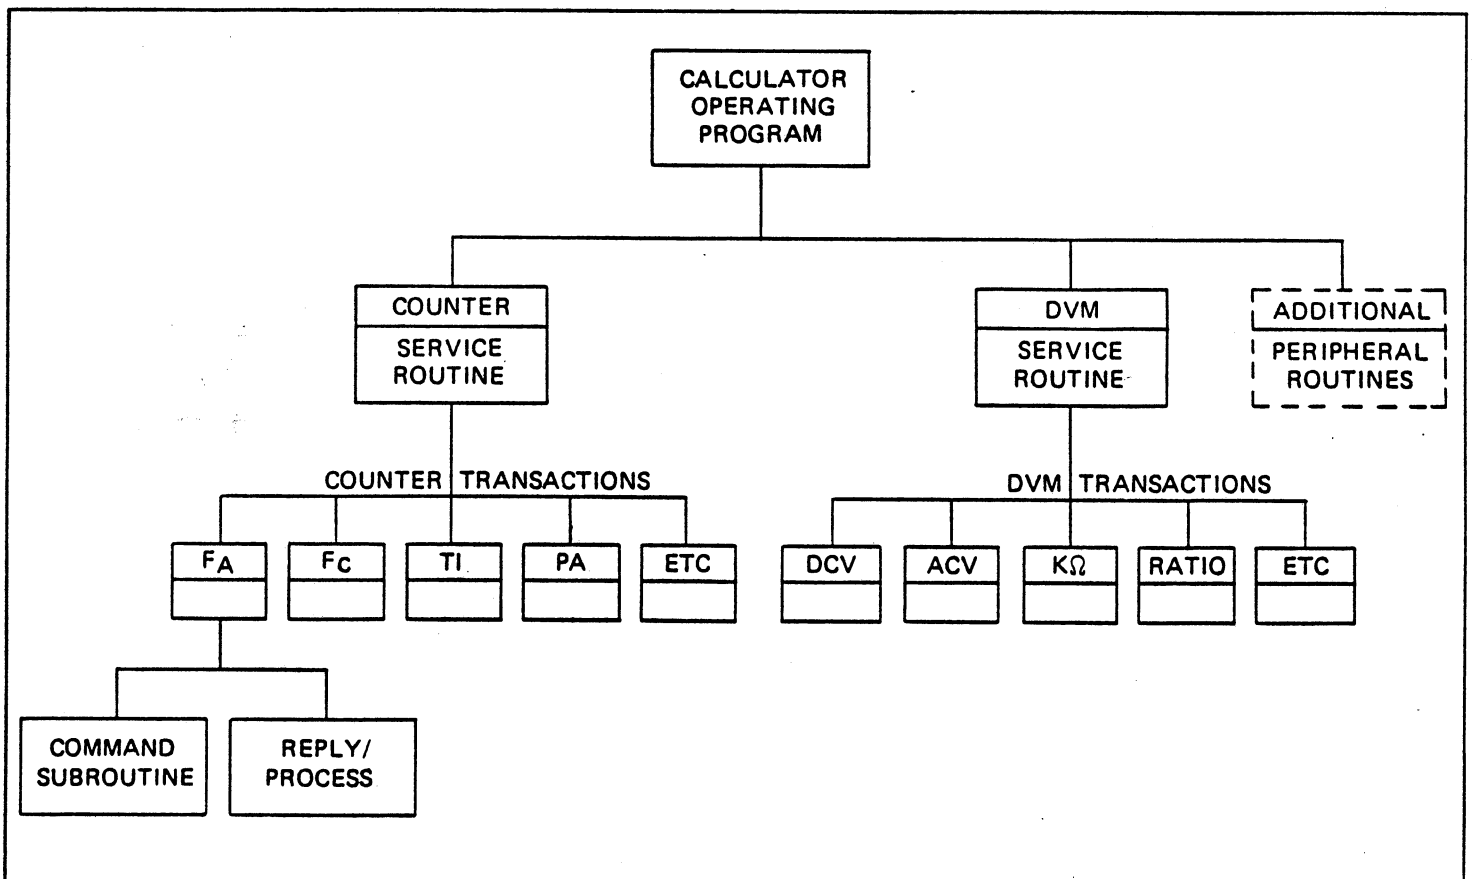

Figure 3.15 - Software Organization
3.3.2 A calculator, computer or other controller device software package usually includes a collection of transactions, service routines and subroutines for controlling all of the elements of a system. The relationship of the various parts of a typical software operating system are illustrated in Figure 3.15. A complete operating system may include the main executive program, the keyboard monitor program, some form of statistical routine, an arithmetic or decision making routine and a set of peripheral servicing routines. Figure 4.1 illustrates a portion of a software package referred to as an operating system. The portion illustrated is a typical collection of peripheral service routines. These peripheral service routines are groups of subroutines known as transactions. Note that the illustration shows a service routine for a counter, a digital voltmeter and a number of additional peripheral equipments. A counter service routine for the 9000A might include a number of transactions depending on the application of the instrument in the system. Each transaction will include the bus commands and device messages necessary to accomplish the specific function for each transaction. Note that the transactions shown are for FA (Frequency A), FC (Frequency C), TI (Time Interval), PA (Period Average) and any number of other transactions necessary for the particular counter application. Note that under the FA transaction block a further breakdown is illustrated: that of the command subroutine and the reply or process subroutine. This is the point in the overall software structure that the 9000A device messages appear.